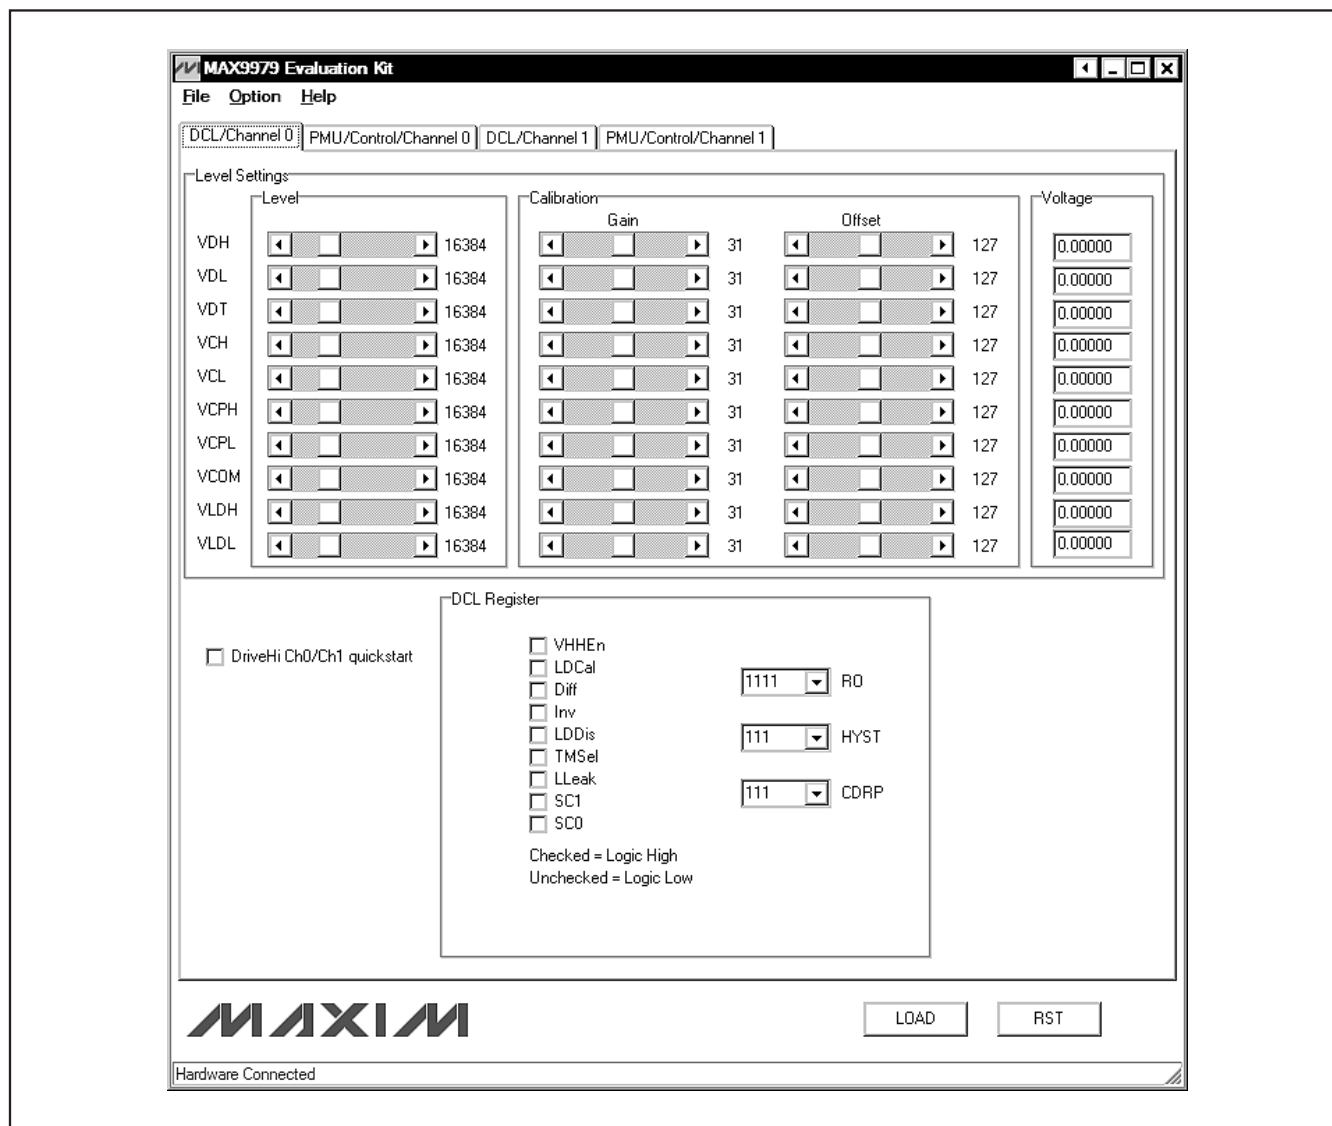
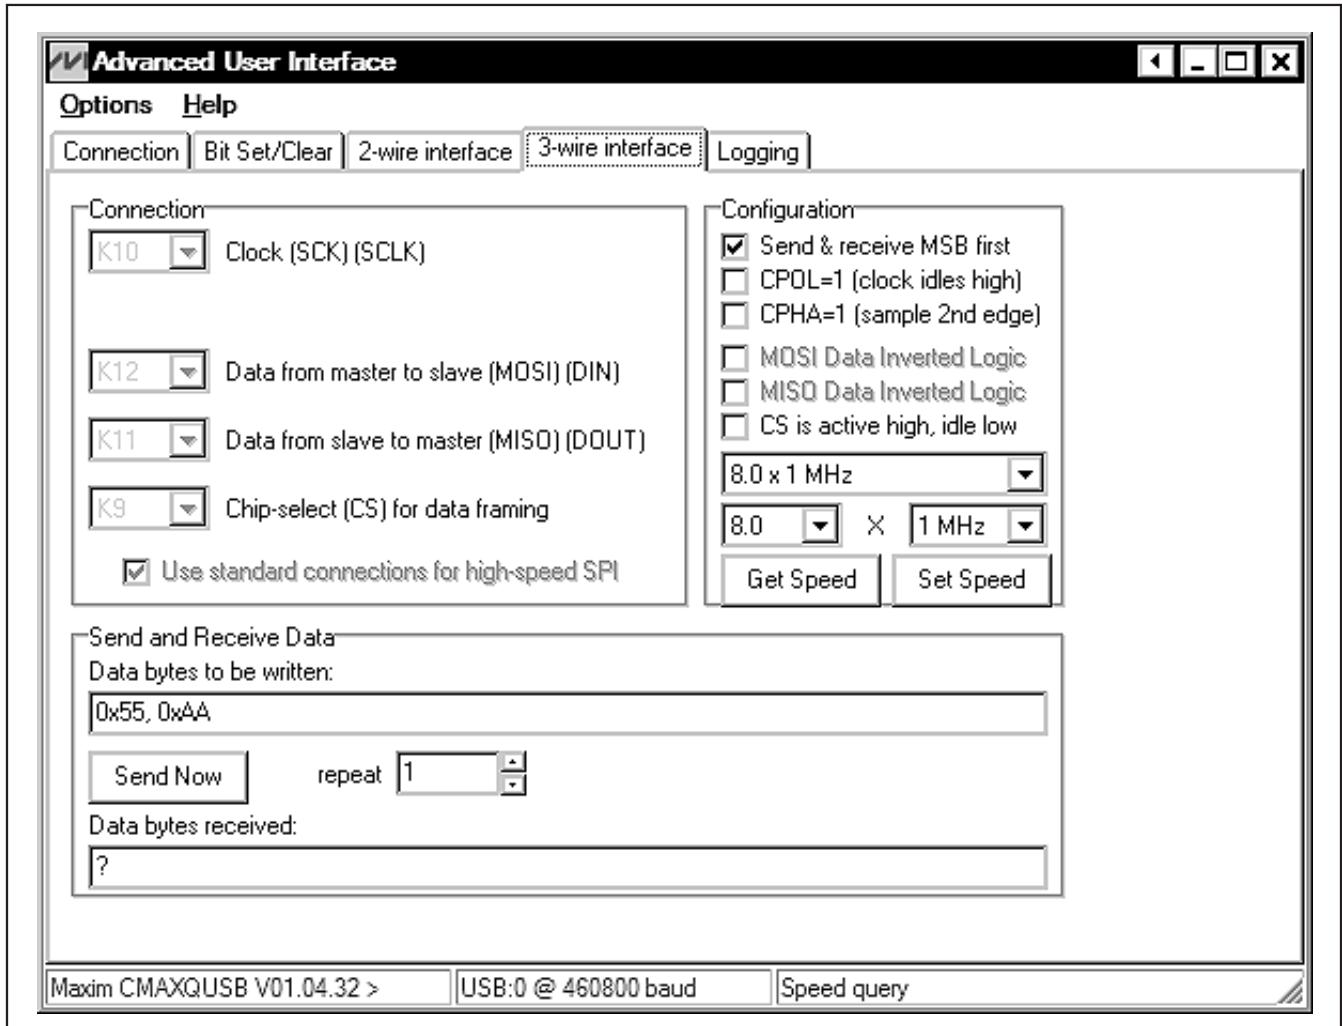

Figure 1. MAX9979 EV Kit Software Main Window (DCL/Channel 0 Tab)
Figure 6. Advanced User Interface Window (3-Wire Interface Tab)
- 16) Start the MAX9979 EV kit software by opening its icon in the **Start | Programs** menu. The EV kit software main window appears, as shown in Figure 1.
DCL/Channel 0 and **DCL/Channel 1** tab sheets (Figures 1 and 3) are identical and are for channels 0 and 1, respectively. These tab sheets contain **Level Settings** and **DCL Register** group boxes.
There are two methods for communicating with the MAX9979. The first is through the window shown in Figures 1, 3, 4, and 5. The second is through the **Advanced User Interface** window shown in Figure 6. The **Advanced User Interface** window is available by selecting the **Option 1 Interface (Advanced User)** menu item and allows execution of serial commands manually.